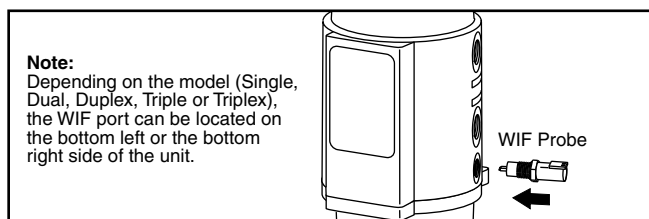

Figure 3 - WIF Probe Installation
1. Install the WIF Probe (3957158 S) into the side of the Industrial Pro® (see Figure 3). Torque to 20-25 in-lbs (2.3-2.8 N·m).